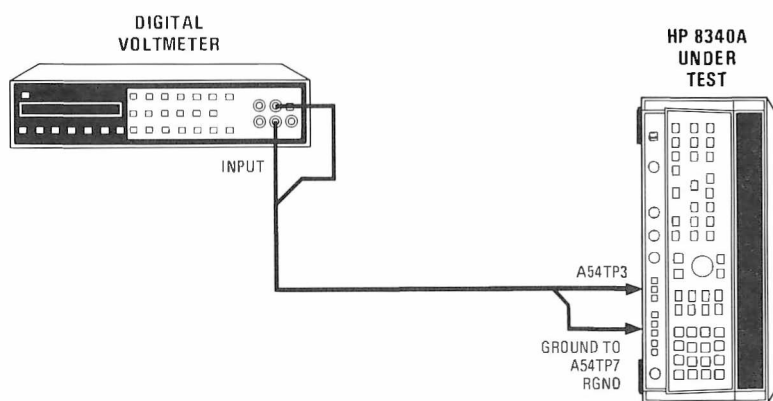

Figure 5-14. YO Pretune DAC Gain Test Setup
1. Position the 8340A in the Test Position as shown in Figure 5-14 with bottom cover removed. Connect equipment as shown in Figure 5-14 and allow one-half hour warm up time. Be sure to connect DVM ground to A54TP7 REF. Ground.